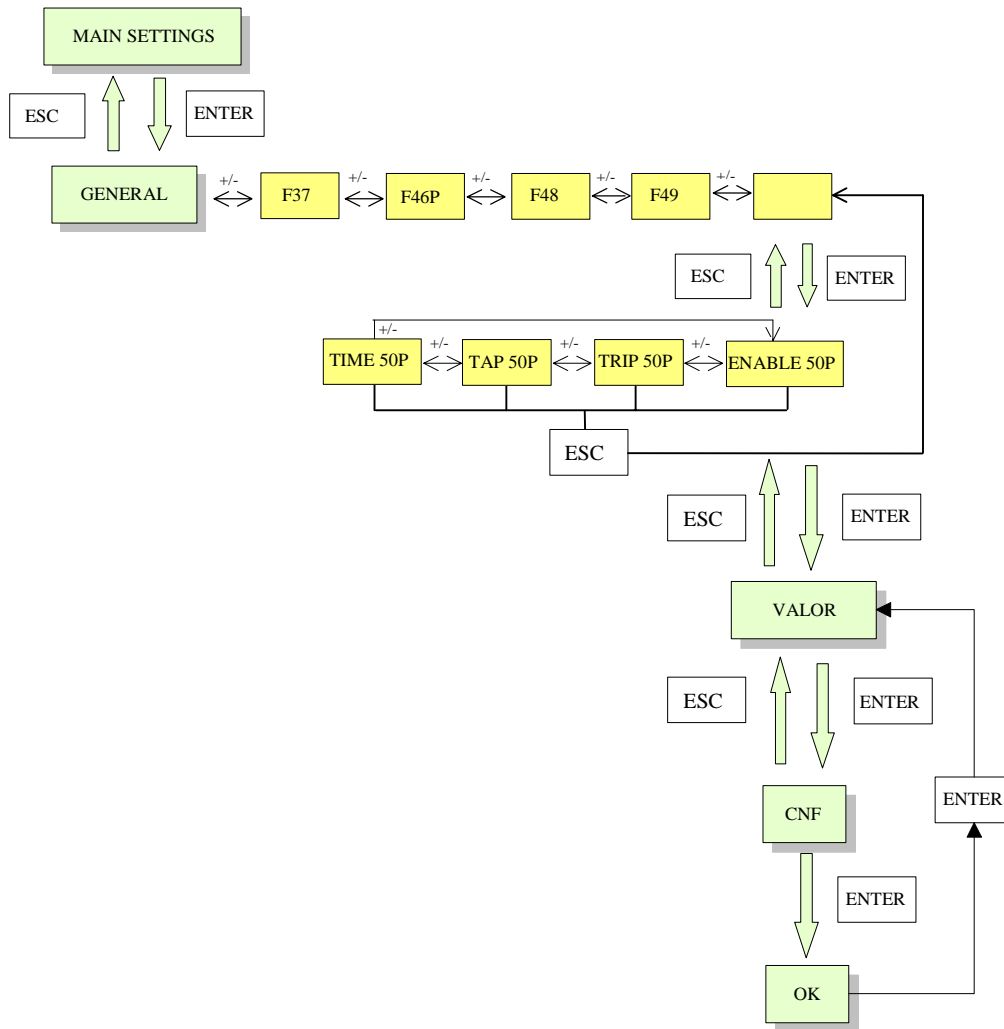

Figure 8.13. KEYPAD AND DISPLAY HANDLING FROM THE F50P HEADING
The mnemonics in figure 8.13 stand for:
2. Follow figure 8.13 and look for the RST LEDS message in the display. Press Enter. The confirmation message will be shown CNF. Press Enter to confirm that you really want to reset the LEDs. All Target LEDs will be reset and the message OK will be shown, to point out that the operation has been performed successfully. To return to the second level, press Enter.